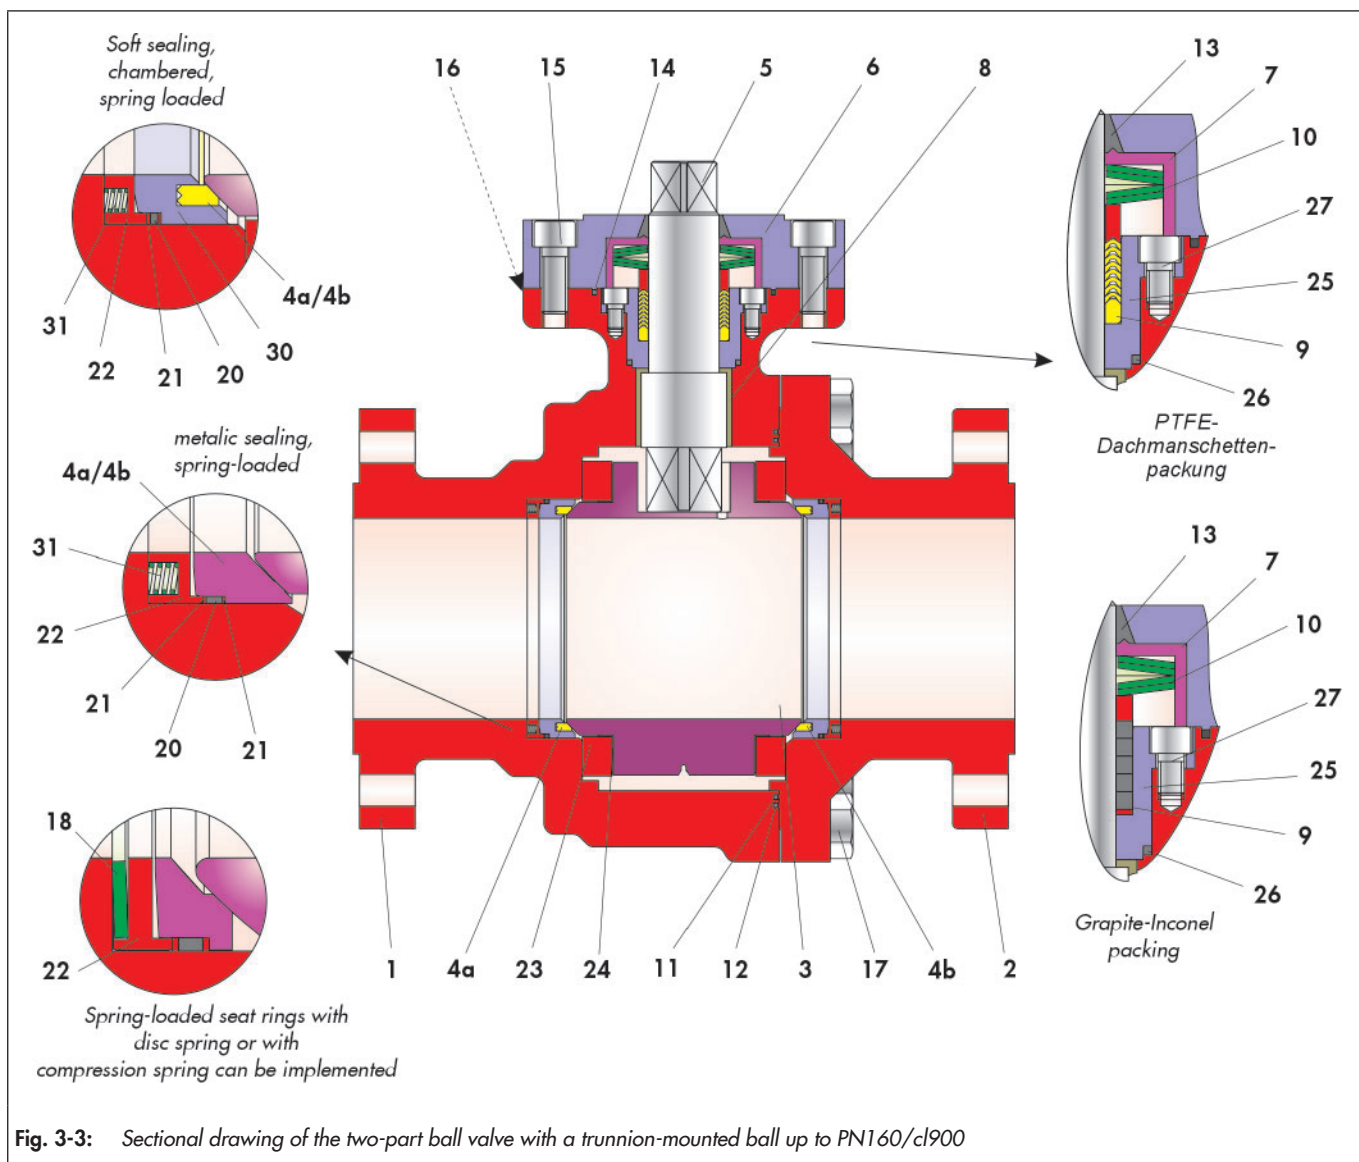

Fig. 3-3: Sectional drawing of the two-part ball valve with a trunnion-mounted ball up to PN160/cl900
The position and arrangement of the individual parts shown in Fig. 3-3 must be observed during assembly.
- ⇒ Do not damage the sealing surface of the control shaft (5).
- ⇒ Position the bearing bush (8) with the control shaft (5) into the ball support (3) without twisting it.
- ⇒ Insert the ring (26) into the packing bush (25).
- ⇒ Fill the packing bush (25) with V-ring packing or graphite packing (9). Arrangement of the V-rings see Fig. 3-3.
- ⇒ Push the preassembled packing bush with a slightly rotary movement without excessive force over the assembled control shaft (5).
- ⇒ Screw the packing bush together with screws (27) evenly and in a criss-cross pattern.
- ⇒ Place the disc spring set (10) on the packing (9). Arrangement of the disc springs, see Fig. 3-3.
- ⇒ Push the bush (7) over the control shaft (5) such that they lie on the disc spring (10) and centre them.
- ⇒ Push the carbon-graphite ring (13) carefully over the control shaft (5) up to the bush (7).
- ⇒ Insert the carbon-graphite ring (14) into the groove of the stuffing box flange (6).
- ⇒ Place the stuffing box flange (6) over the control shaft (5) on to the main body (1).
- ⇒ Lightly grease the screws (15).
- ⇒ Evenly adjust the stuffing box flange (6) with the screws (15) and tighten in a criss-cross pattern.